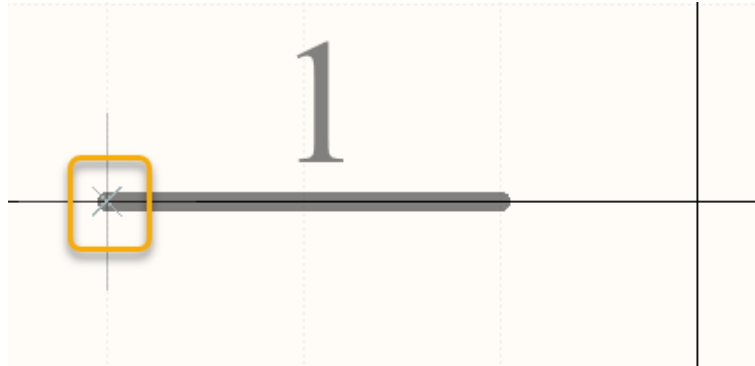

Figure 16. Pin Electrical Hotspot
19. Notice that one end of the pin has a small "X" as shown in Figure 16. This X, or crosshair, defines its electrical connection or hotspot.